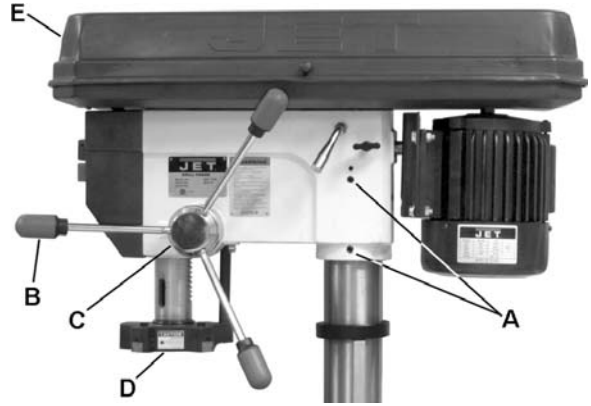

Figure 3
1. With the aid of a second person, carefully lift the *head* onto the *column top* (Figure 3).
3. Tighten two *set screws* (A, Fig. 3) with a 5mm wrench until they are snug.
Referring to Figure 3:
1. Lower the table out of the way of the *spindle assembly* (D, Fig. 3).